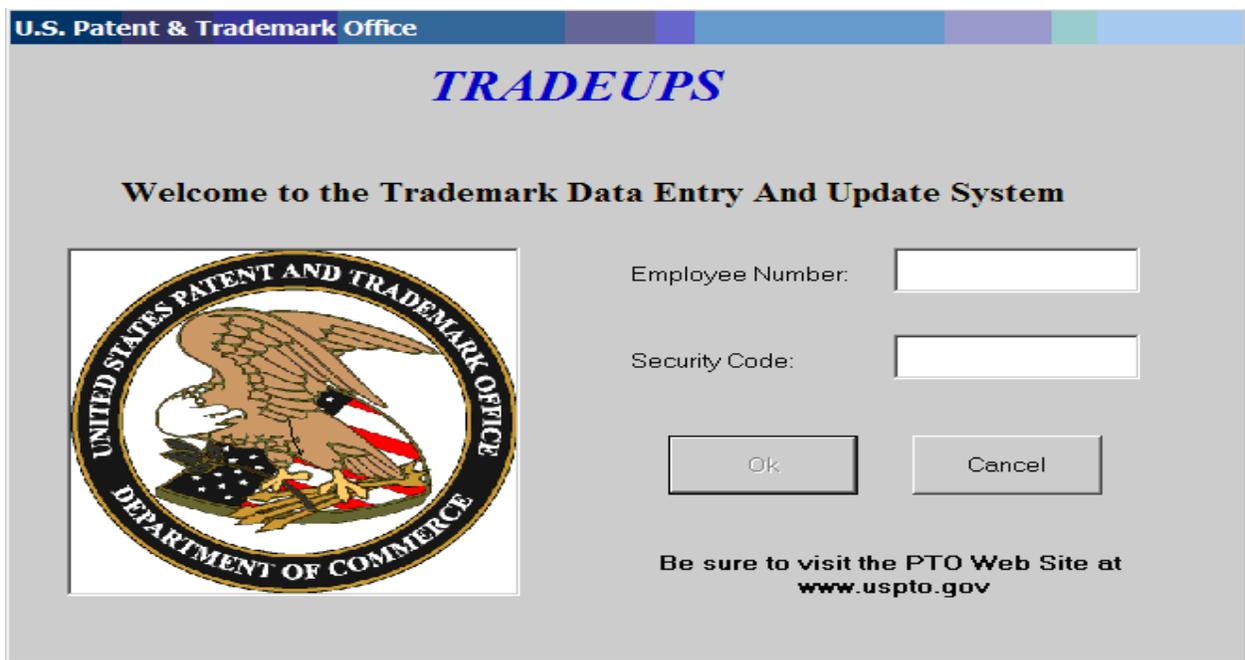

Figure 1-22: The TRADEUPS Login Screen
Step 1: Double-click the TRADEUPS icon on the desktop to access the login screen (Figure 1-22).
Step 2: Enter an **employee number** in the “Employee Number” field and the **associated employee password** in the “Security Code” field of the login screen (Figure 1-22).